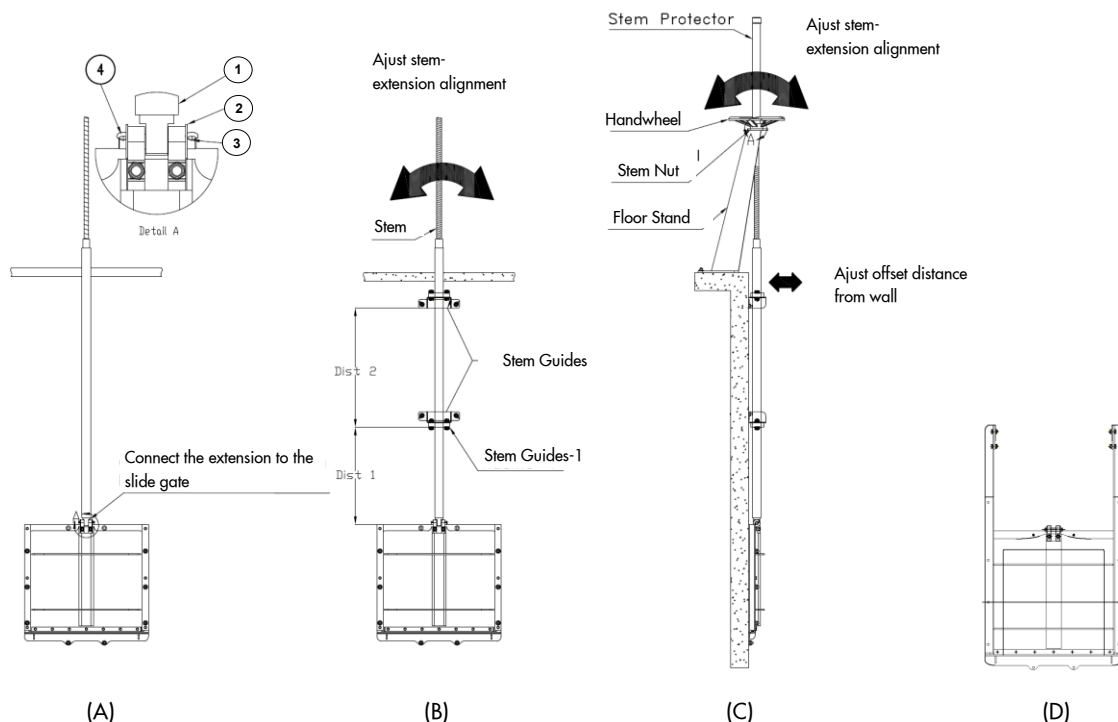

Figure 9
1. Connect the stem extension to the slide gate (Figure 9-A and Detail A). Connect the stem extension (item 1) using the pin (item 4) In order to be able to do so, the washer (item 2) and the cotterpin (item 3) shall be removed and re-installed
3. Next, install (drill and tighten anchor bolts) all stem guides except the first one (see Figure 9-B, "Stem Guide-1"). Refer to General Arrangement Drawing for dimensions Dist-1 and Dist-2 (see Figure 9-B).
5. Position the floor stand and the operator. Engage the stem in the stem nut and turn the pedestal and the operator to bring it to the operating floor level. Make sure that the stem extension is perfectly aligned and parallel to the wall surface, adjusting the offset if necessary, of the 'Stem-Guides' (U)HMWPE inserts. Once the stem extension is perfectly aligned, install the floor stand (drill and tighten anchor bolts)
6. Operate the slide gate and bring it to the open position. Install "Stem Guide-1", so the top of the slide hits on the stem guide. Note that "Stem Guide-1" is installed in the orientation shown in figures 9-B and 9-C ((U)HMWPE insert down). Some other models incorporate extended frame, which also works as mechanical stop for the OPEN position (see Figure 9-D). In any case, consult the GAD